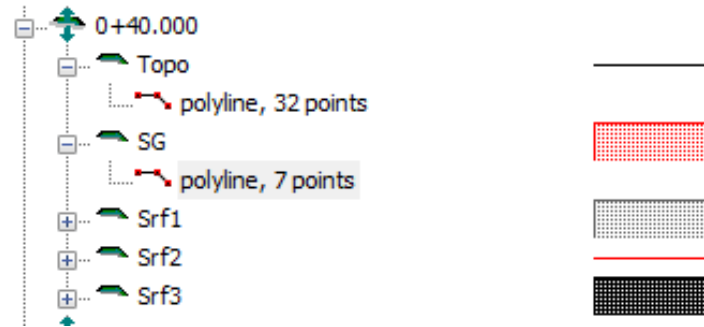

Figure 25-3 Cross Section Editor with SG Polyline Selected
12. Press the  next to the section. Click on the *plus* next to SG. Select polyline, 7-point refer to Figure 25-3.